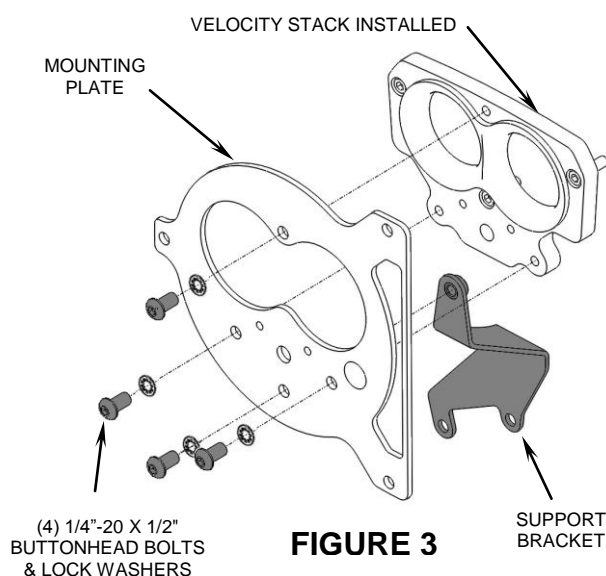
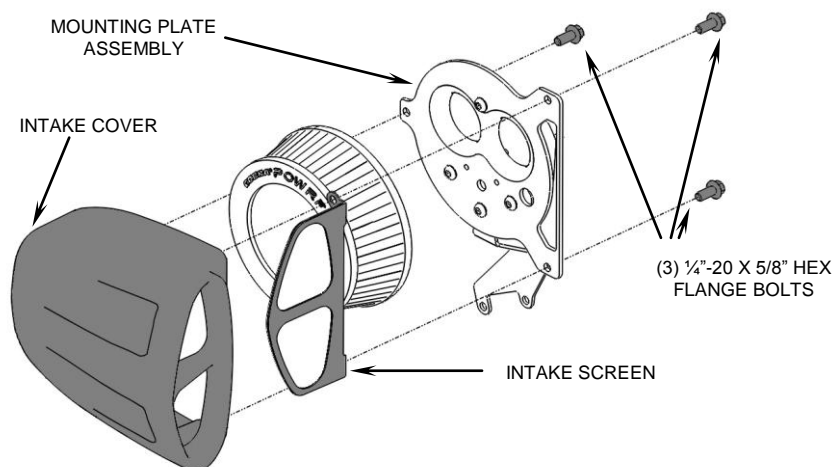

FIGURE 3
FIGURE 5
4. Bolt the velocity stack to the throttle body using the (3) supplied M5 x 16mm allen bolts and tighten.
5. Position the mounting plate over the velocity stack (with the welded tube toward the inside) and secure using (3) supplied 1/4"-20 x 1/2" buttonhead bolts and lock washers, finger tighten only. See Figure 3.
6. Remove the two allen bolts at the base of the cylinders and install the supplied support bracket. Secure the support bracket to the mounting plate using the (1) remaining 1/4" buttonhead bolt. See Figure 3 & 4.
7. Fully tighten the (4) 1/4"-20 buttonhead bolts (Steps 5 & 6) and the stock allen bolts (Step 6).
9. Insert the intake screen into place so the holes in the bent tabs align with the threaded bosses in the intake cover, see Figure 5 for orientation. Place the supplied K&N® filter into the intake cover.
10. Place intake cover over the mounting plate and align the mounting holes to the threaded bosses. Insert the (3) supplied 1/4" hex flange bolts and tighten the mounting plate to the intake cover. See Figure 5.